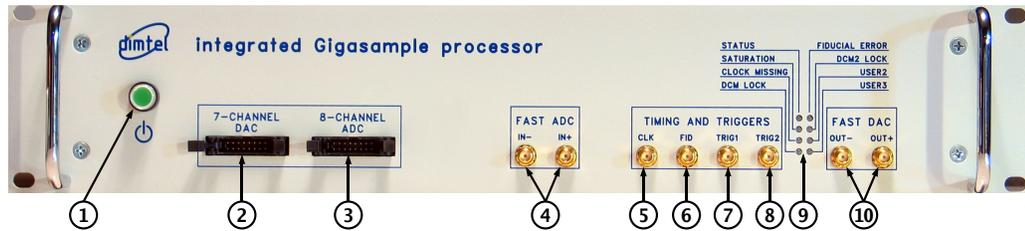

Figure 2: Front panel features
2. Connect **RF** clock at  $-3$  dBm nominal level (Fig. 2, item 5);
3. Connect single-ended high-speed **ADC** input signal to **Ain+** (Fig. 2, item 4). The **FS** swing of this signal should be 190 mV peak-to-peak;
4. Connect a  $50\ \Omega$  terminator to **Ain-** (Fig. 2, item 4);
5. Connect high-speed **DAC** output(s) (Fig. 2, item 10) to the appropriate back-end unit;
9. Push the power button (Fig 2, item 1) to turn on the system;
11. Push the power button (Fig 2, item 1) to turn the system off;
- Connect the 16-pin ribbon cable between the 7-channel **DAC** (Fig. 2, item 2) and the 8-channel **ADC** (Fig. 2, item 3);
- Connect 500.1 MHz clock to the **RF** clock input (Fig. 2, item 5);
- Terminate `Ain-` fast **ADC** input (Fig. 2, item 4);
- Terminate `Aout-` fast **DAC** output (Fig. 2, item 10);
- Make sure fiducial input is not driven (Fig. 2, item 6);